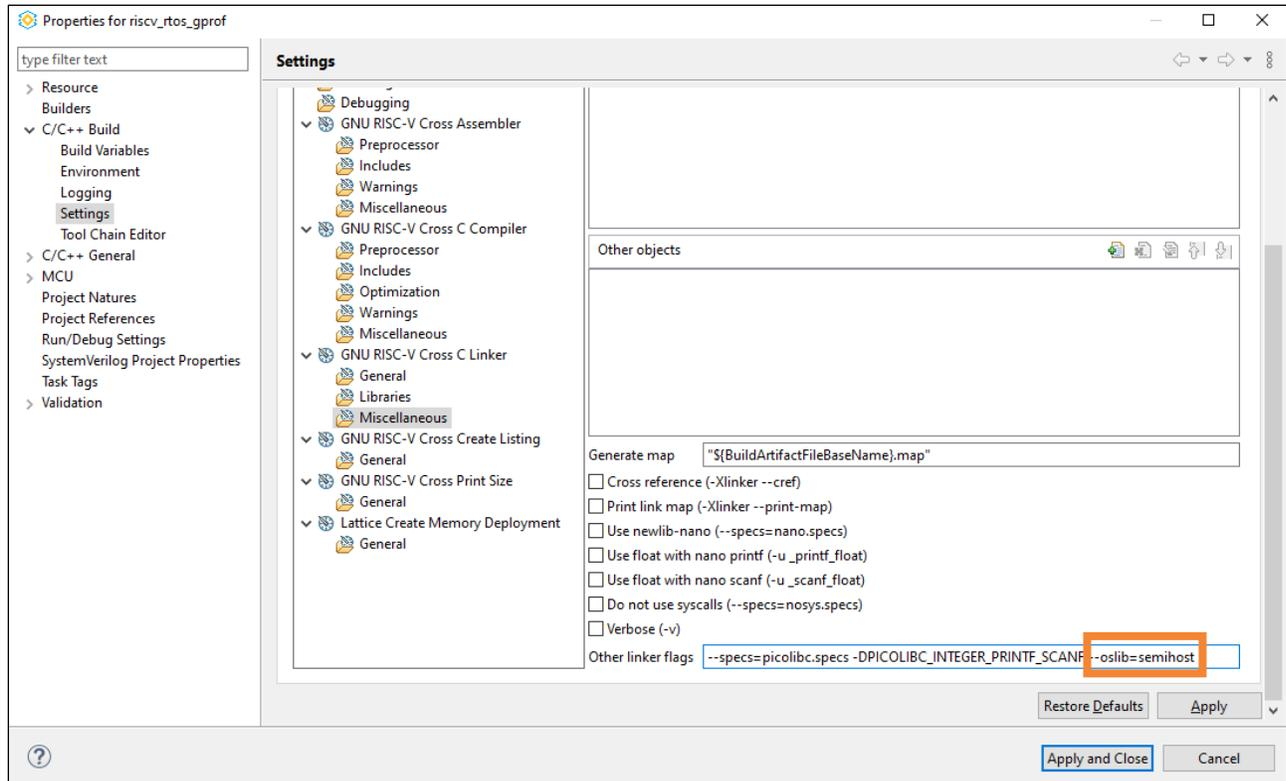

Figure 7.8. --oslib=semihost Linker Flag
6. Select **GNU RISC-V Cross C Linker > Miscellaneous**. Check link flags in the label, Other linker flags. Make sure the linker flag, `--oslib=semihost`, is supported (Figure 7.8).